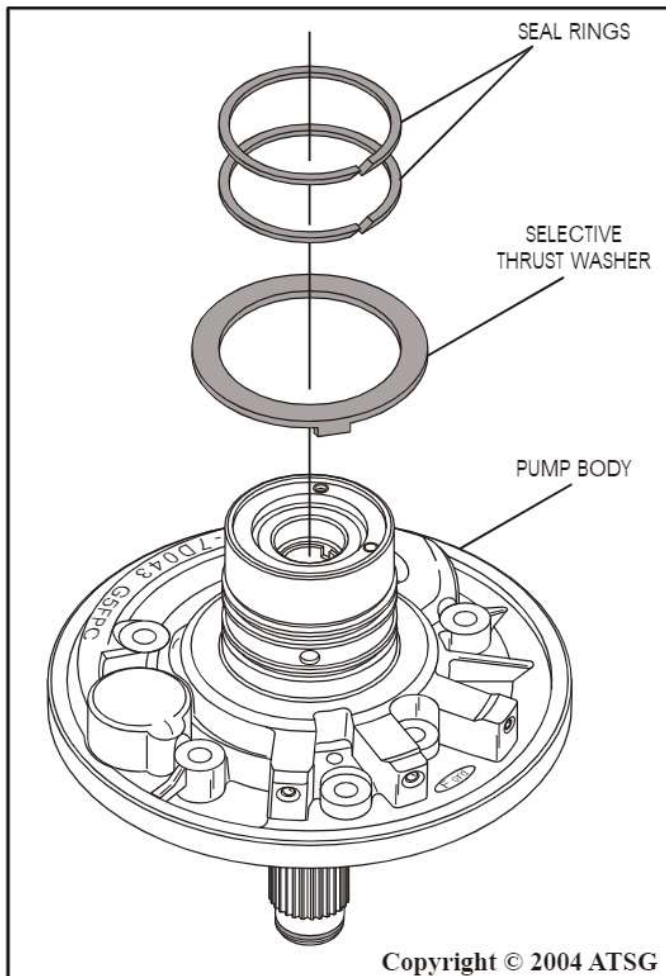

Figure 58
5. Install selective thrust washer that came with the unit and retain with Trans-Jel®, as shown in Figure 58.
6. Install the two overrun clutch seal rings into their grooves and insure that the scarf cuts are assembled properly (See Figure 58).